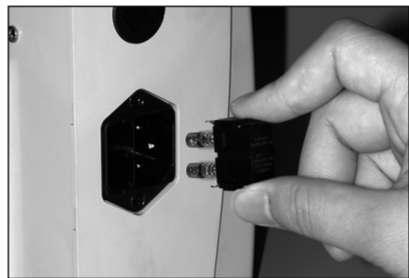

Fig. 9
Fuse is located in Inlet Box ⑭. Release ratchet clamp located on the top and bottom of the Inlet Box and pull it out to change the fuse (T3.15AL / 250V for 120V, T1.6AL / 250V for 230V). (Fig. 9)